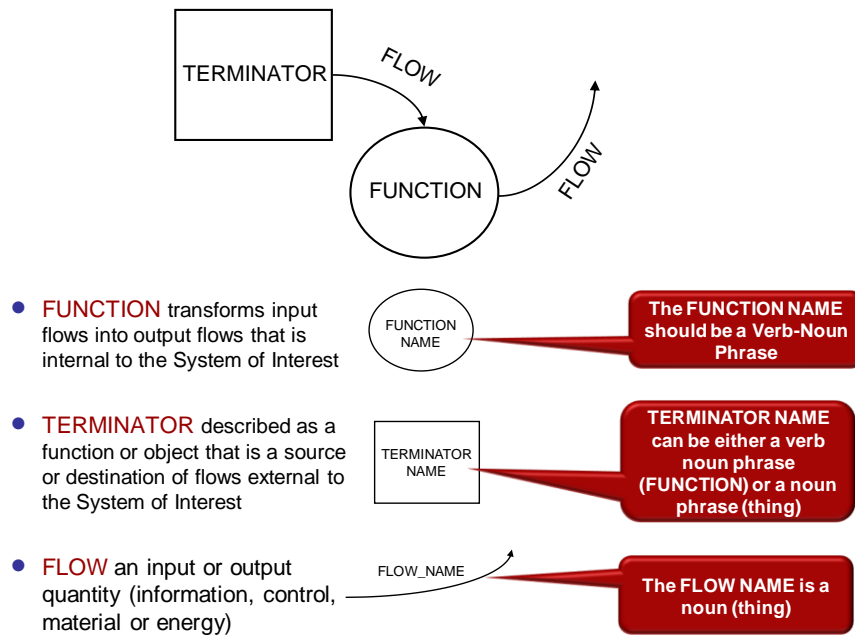

Figure 1: Function Flow Diagram Modelling Conventions
- The **Function Flow Diagram**² (FFD) is a network representation of the system. It portrays the system in terms of its component functions and the logical interdependencies or “flows” between the functions. One of the beauties of the Function Flow Diagram is its simple diagramming conventions. This minimum set enables the team to concentrate on discovering and understanding the system rather than the modelling technique. The conventions are shown in Figure 1.